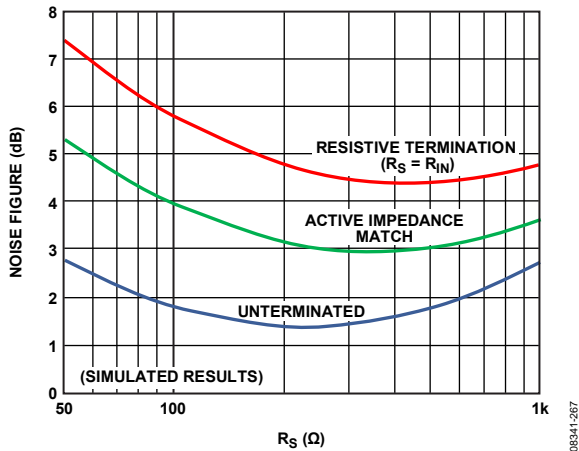

Figure 67. Noise Figure vs. R_s for Resistive, Active Match, and Terminated Inputs
The primary purpose of input impedance matching is to optimize the input signal power transfer. With resistive termination, the input noise increases due to the thermal noise of the terminating resistor and the increased contribution of the input voltage noise generator of the LNA. With active impedance matching, however, the contributions of both are smaller than they are for resistive termination by a factor of $1/(1 + \frac{1}{2} \text{ LNA gain})$. The noise figure (NF) for the three terminating schemes is shown in Figure 67.